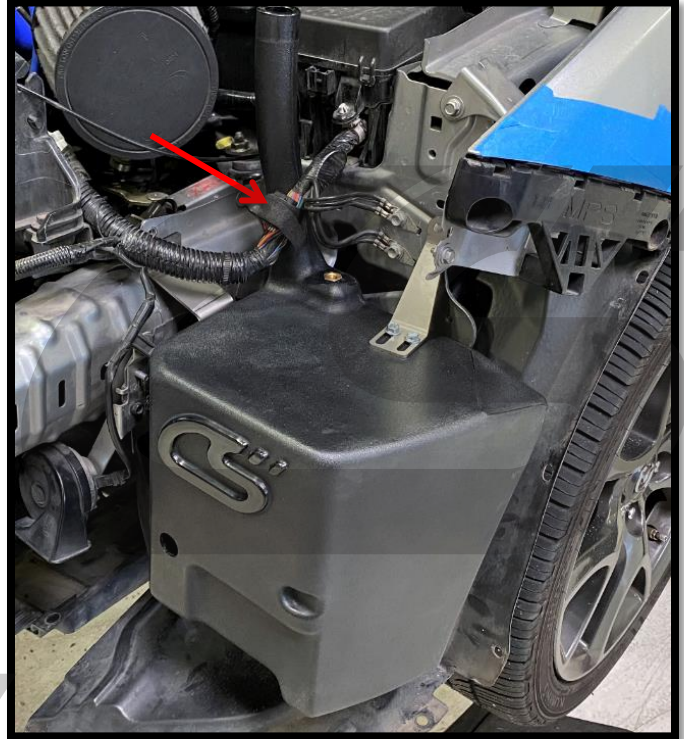

Figure 5c
- c) Lift the CorkSport Auxiliary Fuel Tank into position as shown in **Figure 5c**.
NOTE For 2010-2013 Mazdaspeed 3 owners, make sure the fill neck of the tank is behind the wiring harness as shown with **red arrow** in **Figure 5c**.
NOTE 2007-2009 owners, the wiring harness sits behind the fill neck, opposite of shown in **Figure 5c**.